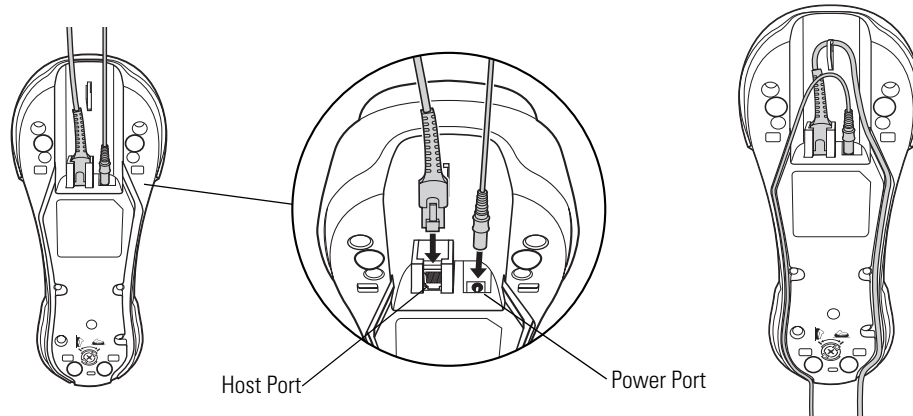

Figure 1-4 *Connecting the Cables to the Cradle*
1. Disconnect the power supply from the scanner cradle. See Figure 1-4.